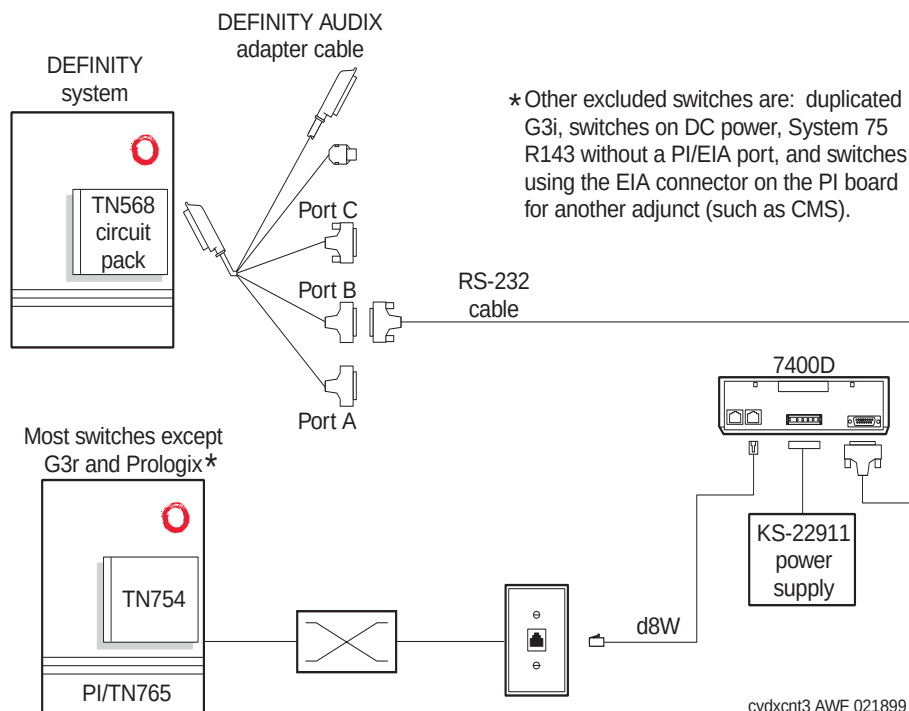

Figure 2-13. Connecting the Control Link Cable to a Digital-Line Interface via a 7400D
- a. Connect the equipment as shown in Figure 2-13.